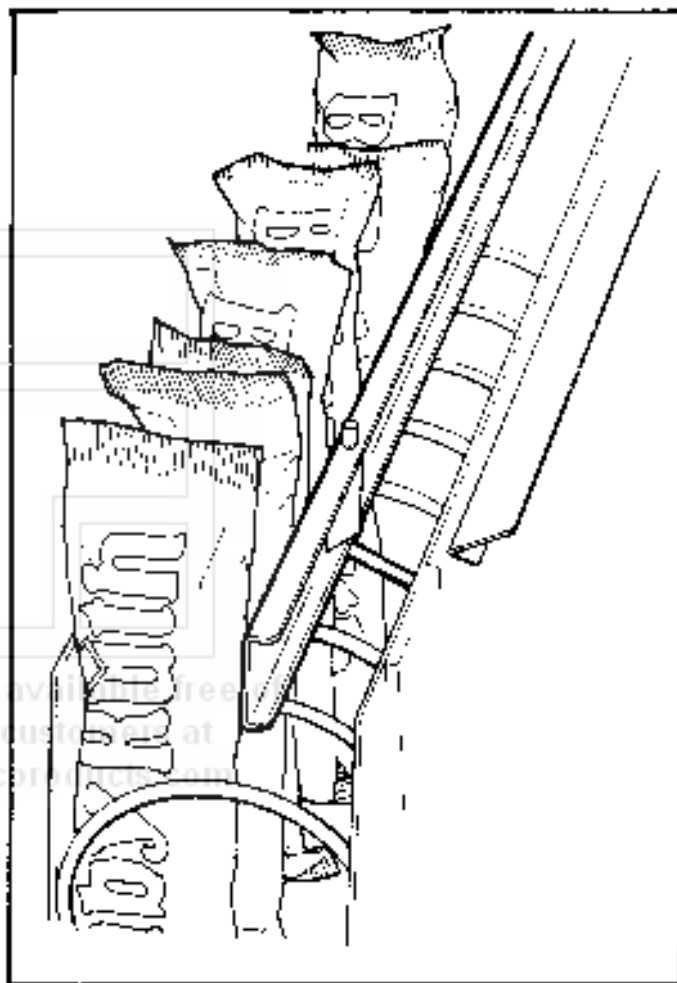

Figure 6. 10 SELECTION SHELF PRODUCT SPACER POSITIONED TO HOLD CANDY UPRIGHT.
8. **PRODUCT SPACERS - 10 SELECTION SHELF:** The 10-selection shelves are equipped with a product spacer (see Figure 6) that can be pivoted from the right side of each product space. These spacers should be pivoted out to hold the product upright, but not tight against the product. Leave about $\frac{1}{8}$ " clearance between the spacer and the product.